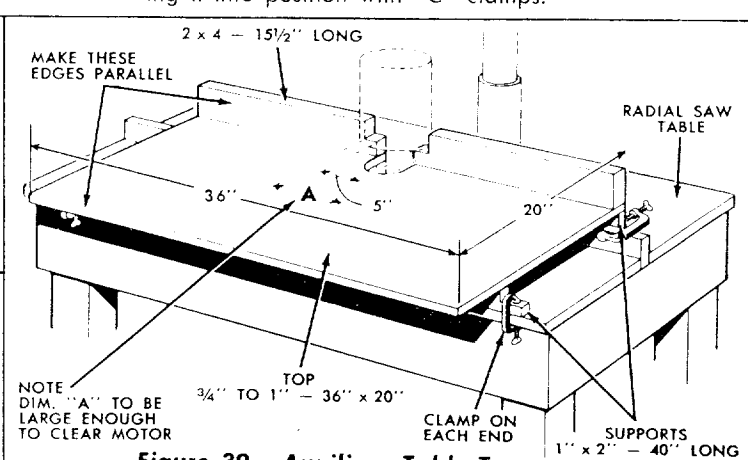

Figure 39 - Auxiliary Table Top
9. An auxiliary table top for molding or shaping can be constructed similar to Figure 39. Note the shape of the back guide fence against which your work piece is moved. A cut-out 5" wide should be made at the center of this guide fence to give adequate clearance for the molding head and cutters. Also a wider clearance marked "A" should be made to allow for the radial saw motor. Be sure the front edge of the auxiliary table is parallel with the surface of the guide fence. With the auxiliary table top thus completed it is ready for use by merely clamping it into position with "C" clamps.